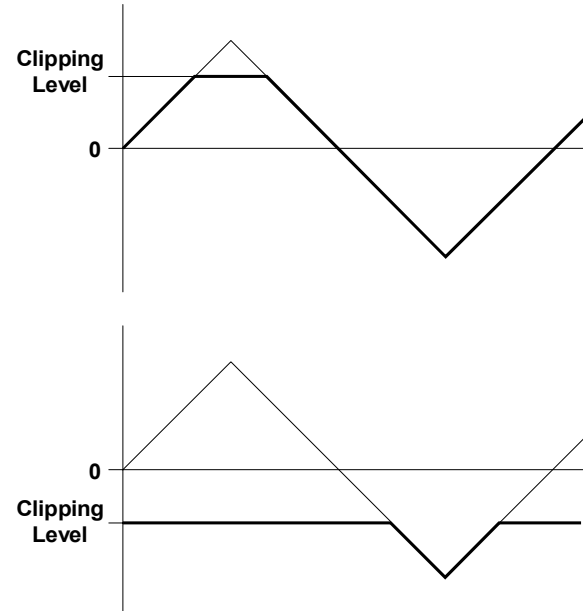

Fig. 1: how the clipping level works
② Clipping Level
With control ②, you set the **clipping threshold** level in a range from -10 V to +10 V. Any part of a waveform which was **above** this threshold is clipped - that is, held at the threshold level (see Fig.1).
③ CCV